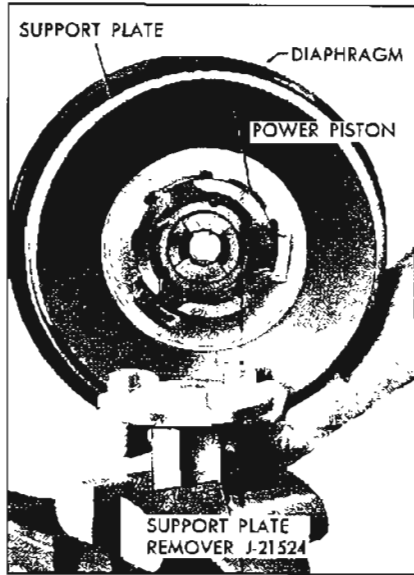

Figure 9-44—Positioning Support Plate Remover in a Vise
3. Place Power Piston Wrench J-21524 in vise with square shank in vise. Hold support plate and power piston with the tube of the power piston up. See Figure 9-44.